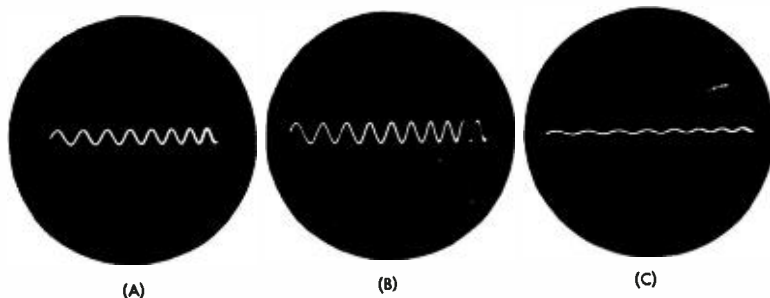

Fig. 2. Oscilloscope traces showing sound pressures inside the speaker cabinet at 1000 cps. (A), cellulose; (B), fibrous glass; and (C), felt.
Figures 1 through 3 are photographs of oscilloscope traces made during the Sound Absorption tests. Figure 1 shows the sound pressures inside the speaker cabinet for a frequency of 50 cps, Fig. 2 the same data for 1000 cps, and Fig. 3 for 15,000 cps. In each case, (A) represents the cellulose material, (B) the
Fig. 2. A stereo tape machine utilizing a plug-in attachment for recording second channel. (Tandberg) Unit on the left is the auxiliary recording amplifier for the second channel; without it, the machine plays stereophonically and records monophonically.